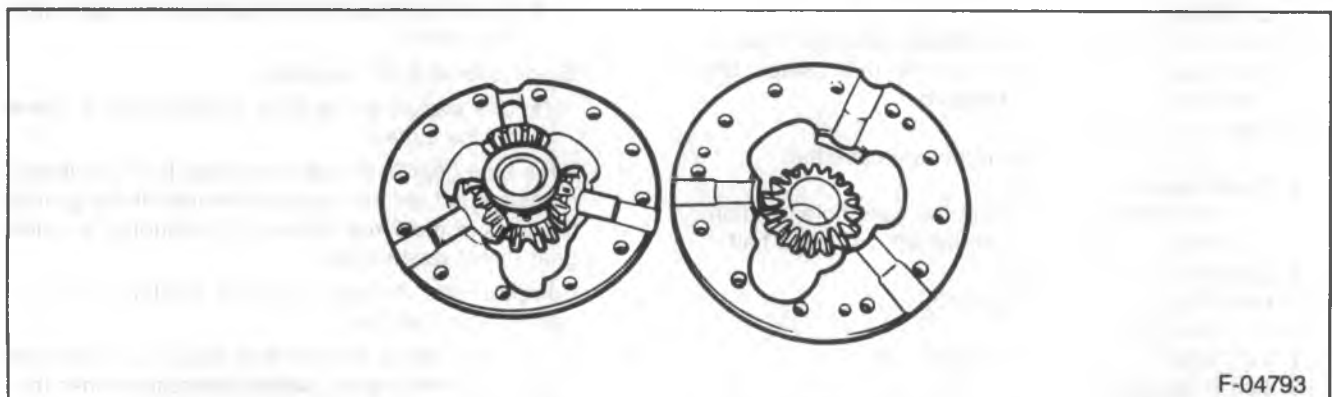
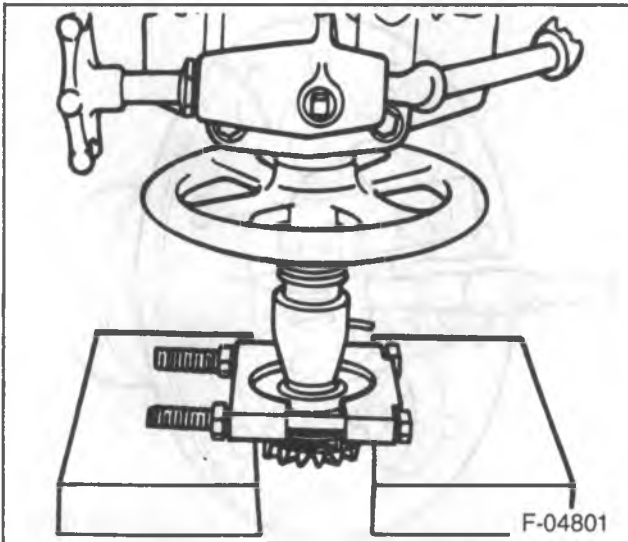

Figure 10—Differential Case Halves
Figure 11—Removing the Thrust Sleeve
2. Case screws (32).
3. Case halves (figure 10).
4. Governor assembly (48).
5. Latching bracket assembly (43).
6. Left side gear (46).
7. Left side clutch pack and guide clips (47).
8. Left thrust washer (45).
9. Reaction blocks (41), pinion yoke (42), pinion gears (39), and pinion thrust washers (38).
11. Right thrust washer (36).
- Measure and record the overall length of the gear assembly from the front of the gear to the back of the thrust sleeve (35) including the side gear washer (36).
12. Thrust sleeve (35) using J 22912-01.
- Press the sleeve from the side gear (figure 11).
14. Guide clips (34).
16. Cam plate (33).
17. Cam side gear (40)